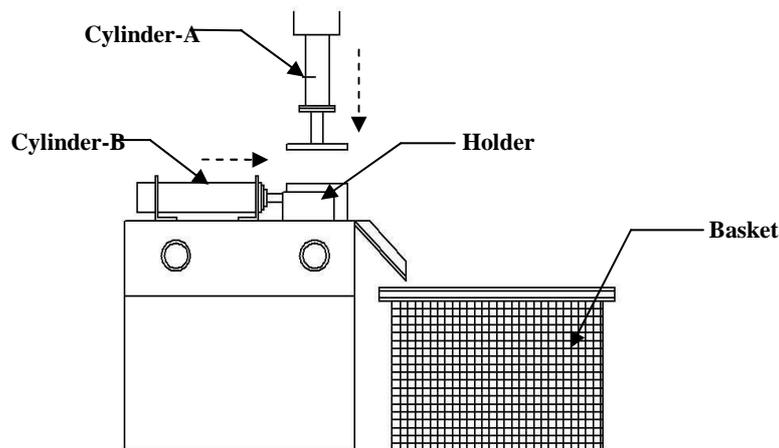

Fig.2 Stamping station
- b) Valve bodies are to be marked with the letters 'KCT', as shown in Fig.2. The valve bodies are placed in the holder manually. Stamping cylinder (A) stamps the letters in the body. Ejector cylinder (B) pushes the parts from the holder in to a basket. The positions of the cylinders are confirmed using limit switches. Develop a pneumatic circuit for the above application using Cascade method. The cycle has to start only if a start button is pressed by the operator.